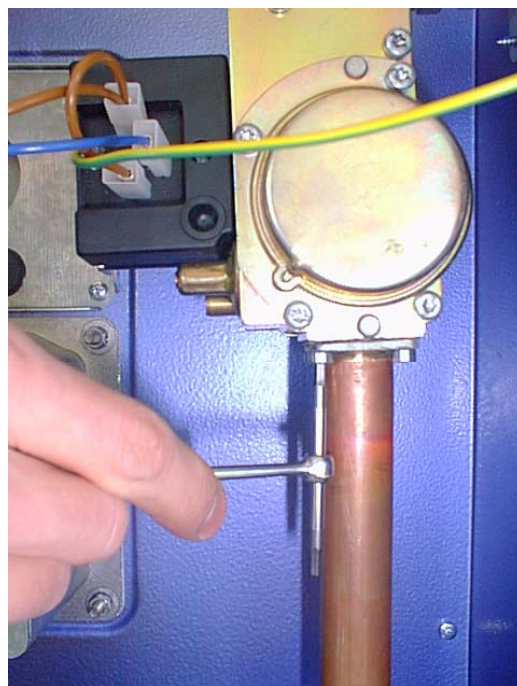

Figure 16
- C) Loosen, without removing, 4 screws for fastening the gas supply pipe to the gas valve (figure 16);